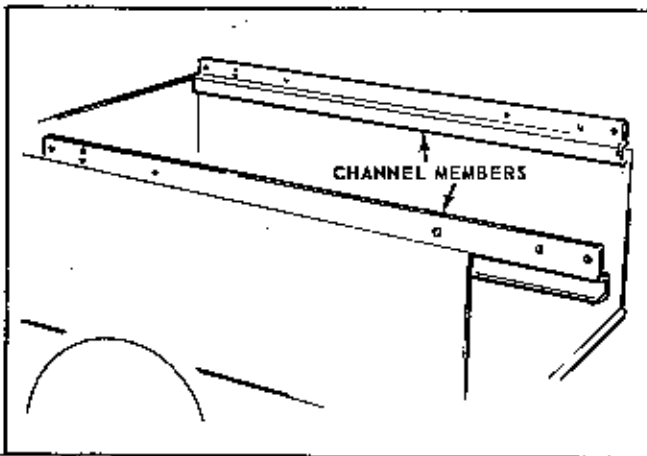
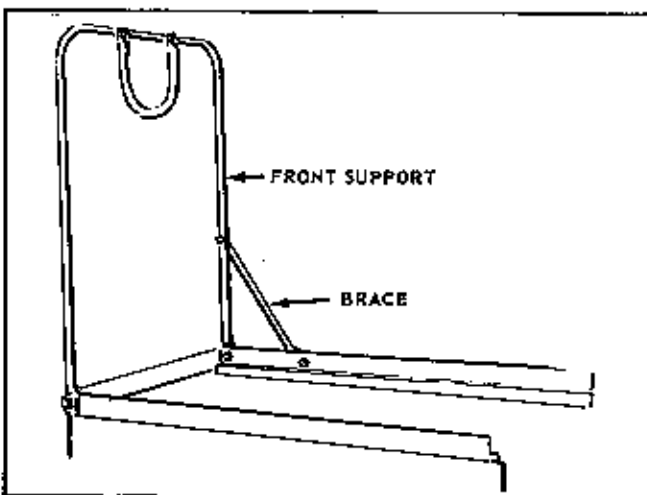

FIGURE 1
FIGURE 2
A. The enclosure should be constructed on the cart body, starting with the lower channel members shown in Figure 1. The front support assembly is then added as shown in Figure 2. (Refer to the exploded view and parts list on Pages 8 & 9 for descriptions of the hardware used in this construction).